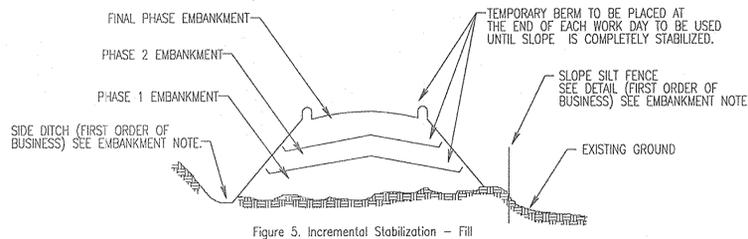

Figure 5. Incremental Stabilization - Fill
iv. Construction sequence: Refer to Figure 5 (below).
a. Excavate and stabilize all temporary swales, side ditches, or berms that will be used to divert runoff around the fill. Construct Slope Silt Fence on low side of fill as shown in Figure 5, unless other methods shown on the plans address this area.